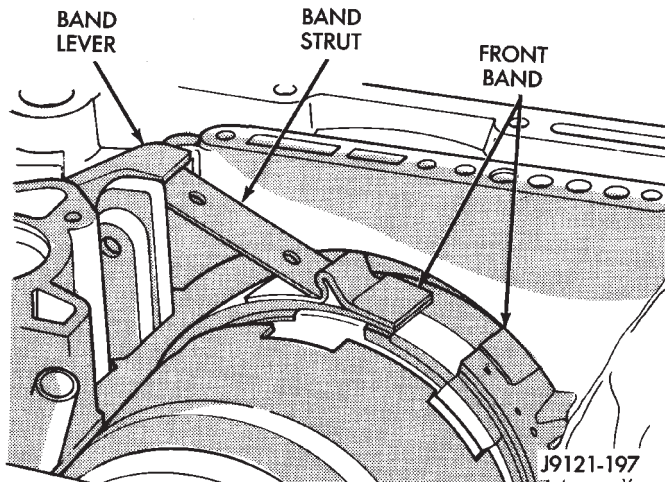
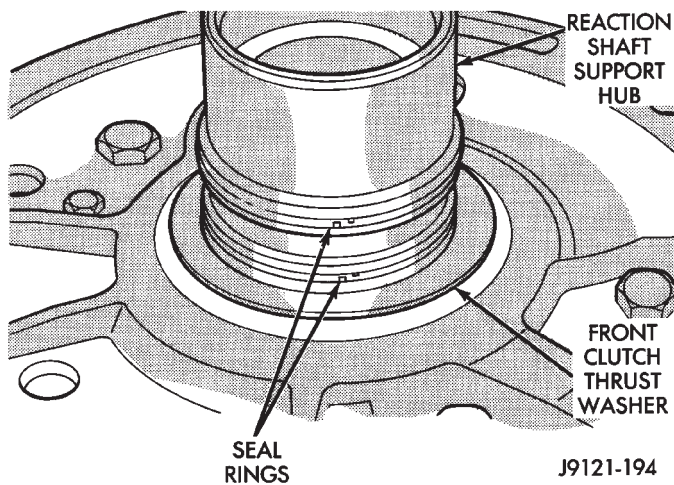

Fig. 108 Front Band Linkage Installation
Fig. 109 Reaction Shaft Support Seal Rings
(36) Engage front band on adjusting screw and hold band in place.
(37) Install strut between band lever and front band (Fig. 108).
(38) Tighten front band adjusting screw until band just grips clutch retainer. Verify that front/rear clutches are still seated before continuing.
(39) Verify that reaction shaft support hub seal rings are hooked together (Fig. 109).